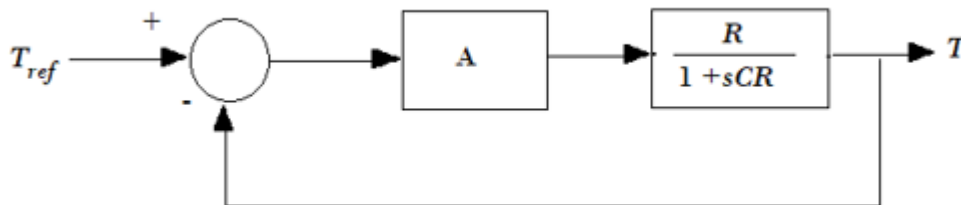

Fig.2 Closed Loop Temperature Control System
13. Connect 1-5, 8-9 (Fig. 2) for proportional control and click on the 'Check Connection' button.
14. Connect 1-5, 2-6, 8-9 (Fig. 2) for proportional integral control and click on the 'Check Connection' button.
15. Connect 1-5, 2-6, 3-7, 8-9 (Fig. 2) for proportional integral derivative control and click on the 'Check Connection' button.